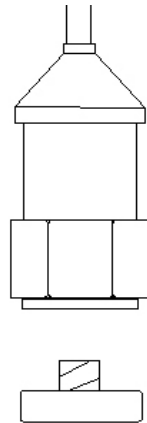

Fig. 3
- 5) If the surface material of measuring article is the ferrous material, connect " Vibration sensor " (3-13, Fig. 1) with the " Magnetic base " (3-14), refer Fig. 3.